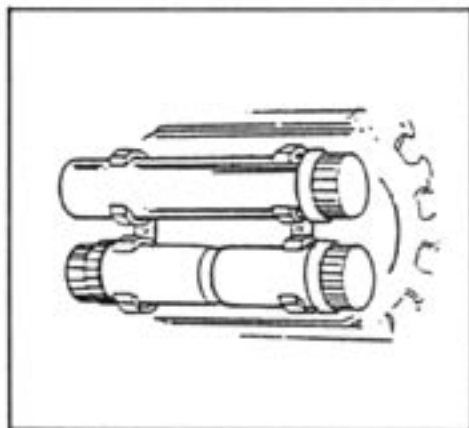

Figure 4
1. Load hybridization bottles on the carousel in even numbers, one balanced against the other on the opposite side of the carousel. A maximum of 10 large (300mm) or 20 small (150mm) hybridization bottles can be loaded. Each large bottle is held in place by two bottle clips; each small bottle is held in place by a single bottle clip. (See Figure 4 on page 4.) Use the **JOG** button to rotate carousel as desired when loading bottles. **TECH TIP: The carousel must be balanced as you would a centrifuge. Always make sure that bottles of equal size and approximately equal volume are lined up opposite one another.**
2. Turn the **POWER** switch to the ON (I) position. This will begin rotation of the carousel. The **POWER** switch must be on before the **HEAT** switch can be activated.
4. Turn the **HEAT** switch to the ON (I) position. You can now set the
5. Pour off buffer and add pre-hybridization solution (10-15 ml for large bottles, 5-7ml for small bottles). Secure leak-proof cap as described above and place bottle in carousel inside the oven. Incubate for appropriate length of time at appropriate temperature and appropriate speed of rotation (see Figure 4). **TECH TIP: Always orient the hybridization bottles in the carousel so that the direction of rotation is the same direction as that used to uncoil the membrane in step 4 above. If the bottles are rotated in the opposite direction, the membrane/mesh may roll up again and come off the bottle wall. If this happens, simply change the orientation of the bottles on the carousel.**